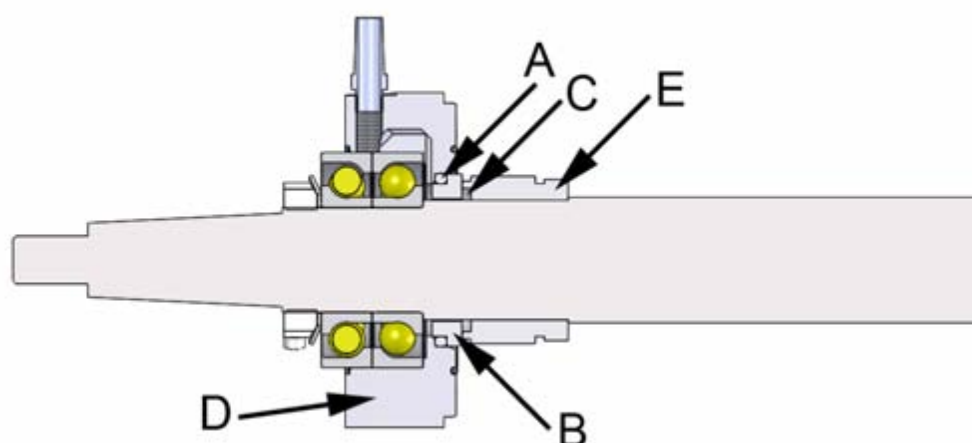

Figure 10. Cross-section of the mechanical seal
The bearing housing comes off together with the bearings and the mechanical seal's static slip-ring (figure 10, point B).
The mechanical seal consists of several parts (figure 10).
The frame of the mechanical seal (figure 10, points E and C) is removed by opening the set screws on its side (3 pcs, figure 10, point E) and pressing the part from the impeller side.
Parts A and B (figure 10) are removed by pushing them from the bearing side.
2. Push the static part of the mechanical seal into the bearing housing together with the seal (figure 10, points A and B).